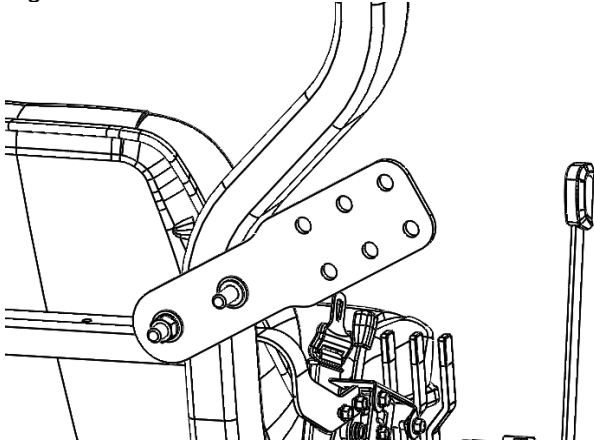

Figure 21: Bulkhead coupler bracket for backhoe compatibility
2. The replacement bulkhead coupler bracket needs to be installed in a different orientation in order to provide clearance for the backhoe assembly. See Figure 21.